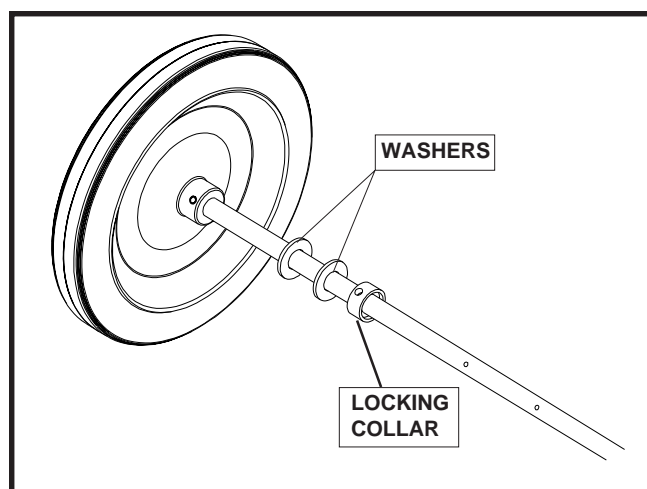

FIGURE 2
11. Add two (2) 5/8" washers locking collar to shaft, install shaft through bearings and tray. Place the other locking collar on the shaft. See Figure 2. Using a punch tighten the locking collars, then tighten the set screw. Repeat for the other side.
- Slide two (2) 5/8" washers onto the axle. Slide wheel on and apply two (2) retaining rings. (Some units have a cotter pin and another 5/8" washer instead of retaining rings.)